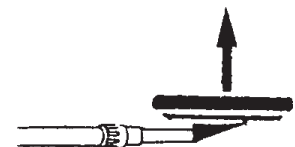

Figure 12
1. After removing watches, rings or any other metal jewelry, place the detector on a wooden or plastic table (search coil's angle so that the flat part faces upward) - see Figure 12. Note: never test on a floor inside a building, as it may have a type of metal present.